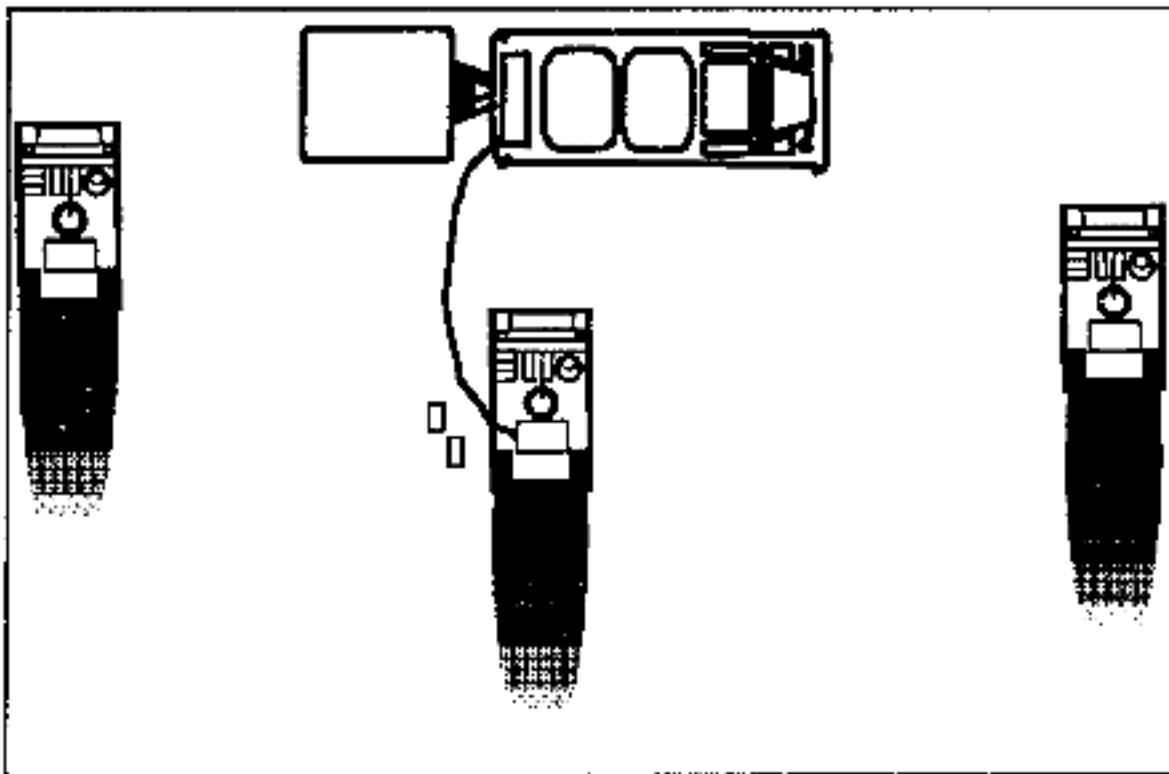

Figure 8-3. On-line Resupply.
- Smoke vehicle commanders will dismount and ground-guide the fog oil/MOGAS vehicle into refueling position (figure 8-3). Refueling position places the fuel vehicle perpendicular to the smoke vehicle. Simultaneously, the generator operator will prepare the system for refueling (for example, lower tailgate, drop amp, open fuel tank). See Appendix F for safety guidance.